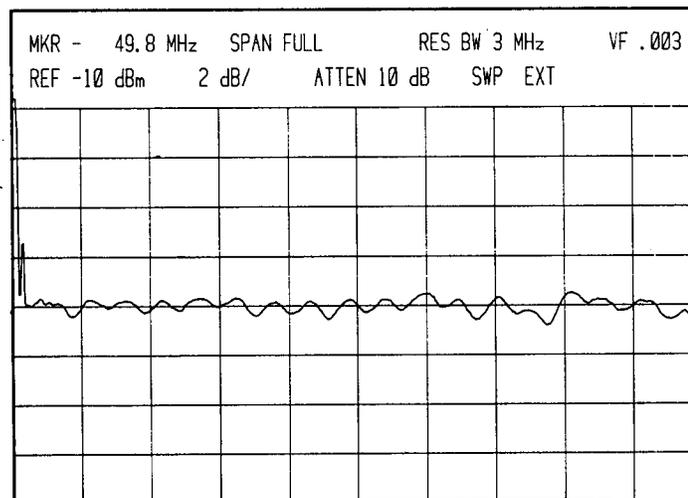

Figure 5-57. CRT Plot of Typical Frequency Response, .01 to 1.8 GHz
32. Adjust A20R14 B1A, A20R9 B1B, and A20R10 B1C to set best line at center horizontal graticule line, with minimum slope (see Figure 5-57). If frequency response is  $\geq 1.2$  dB, adjust A20R71 V1 to minimize amplitude variations.